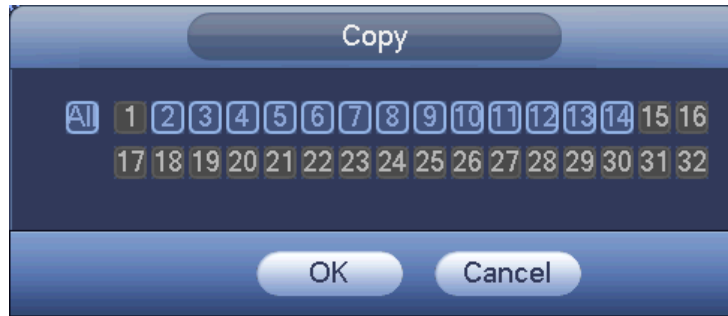

Figure 3-65
- Copy: After you complete the setup, user may click Copy button to copy current setup to other channel(s). User may see an interface is shown as in Figure 3-65. User may see current channel number is grey. Please check the number to select the channel or user may check the box ALL. Please click the OK button in Figure 3-65 and Figure 3-59 respectively to complete the setup. Please note, once you check the All box, you set same encode setup for all channels. Audio/video enable box, overlay button and the copy button is shield.
Copy function allows you to copy one channel setup to another. After setting in channel 1, click Copy button, user may go to interface Figure 3-65. User may see current channel name is grey such as channel 1. Now user may select the channel you want to paste such as channel 5/6/7. If you want to save current setup of channel 1 to all channels, user may click the first box "ALL". Click the OK button to save
current copy setup. Click the OK button in the Encode interface, the copy function succeeded. Please note, if you select ALL in Figure 3-65, the record setup of all channels are the same and the Copy button becomes hidden.